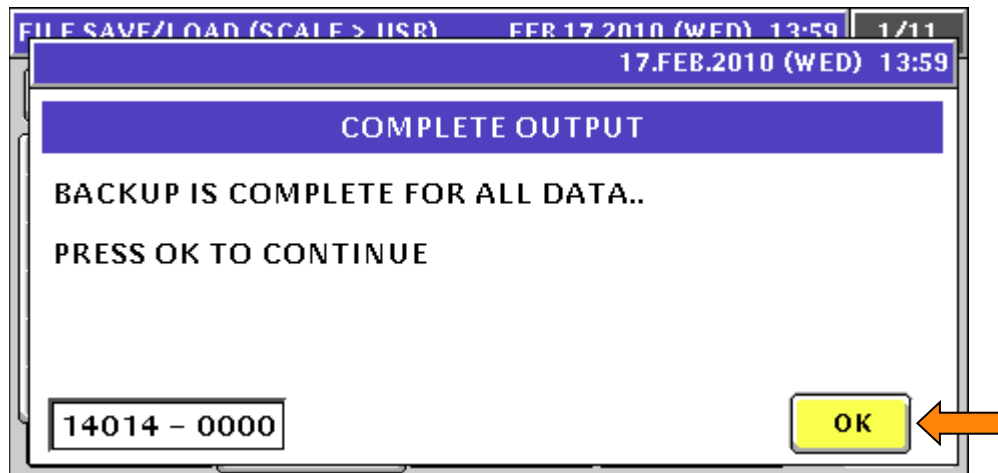

Figure 5. Output to USB Memory Stick Complete Confirmation
- p. Press **OK** when backup is complete (message 14014-0000). See Figure 5.